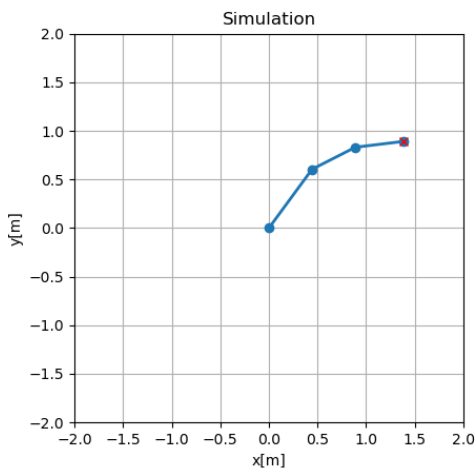

Fig. 2: Simulation of the manipulator, including end-effector goal.
- The Fig.2: visualizes the movement of a **3-link planar manipulator** in a 2D space.